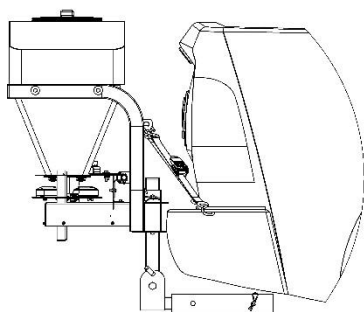
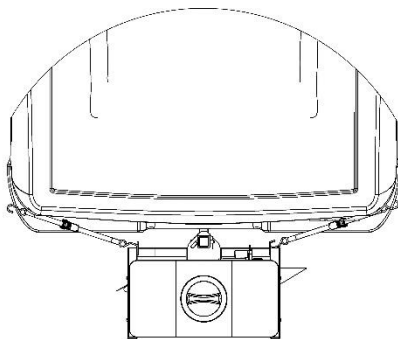
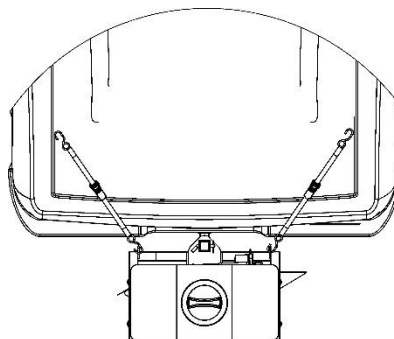

FIGURE 10.1
FIGURE 10.2
FIGURE 10.3
4. After the Spreader is mounted vertically, finish securing the Spreader by attaching the (2) Adjustable Straps provided. Tighten the straps until the Spreader is rigid with the vehicle. This will help fix the Spreader rigid to the vehicle. Suggestions on mounting locations shown in **FIGURE 10.1, FIGURE 10.2 & FIGURE 10.3.**
- Strapping to factory tie down locations (**FIGURE 10.1**) or rigid parts of the vehicles bumper (**FIGURE 10.2**) are recommended.